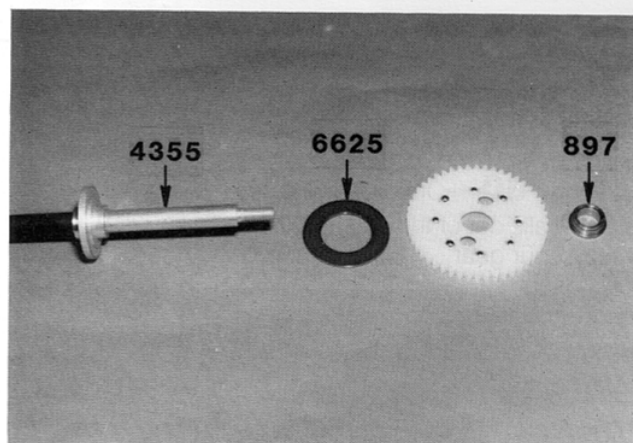

Fig. 62
□ **Fig. 62**—Slide and seat a #6625 drive ring onto the #4355 diff axle. It's easier to do if you hold the axle upright. Slip one of the #897 ball bearings onto the axle next, with the larger flanged end on first. This ball bearing must be able to slip into the #4360 ball bearing mount later.